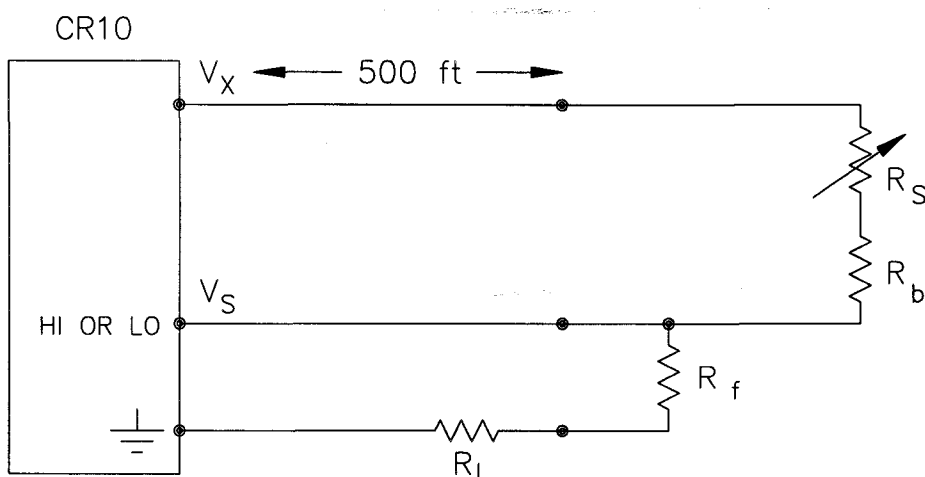

FIGURE 13.3-9. Incorrect Lead Wire Extension on Model 107 Temperature Sensor
6. Most Campbell Scientific sensors are configured with a small bridge resistor,  $R_f$ , (typically 1 kohm) to minimize the source resistance. If the lead length of a Campbell Scientific sensor is extended by connecting to the pigtails directly, the effect of the lead resistance,  $R_l$ , on the signal must be considered. Figure 13.3-9 shows a Campbell Scientific Model 107 sensor with 500 feet of extension lead connected directly to the pigtails. Normally the signal voltage is proportional to  $R_f/(R_s+R_b+R_f)$ , but when the pigtails are extended, the signal is proportional to  $(R_f+R_l)/(R_s+R_b+R_f+R_l)$ .  $R_l$  is much smaller than the other terms in the denominator and can be discarded. The effect on the signal can be analyzed by taking the ratio of the signal with extended leads,  $V_{sl}$  to the normal signal,  $V_s$ :